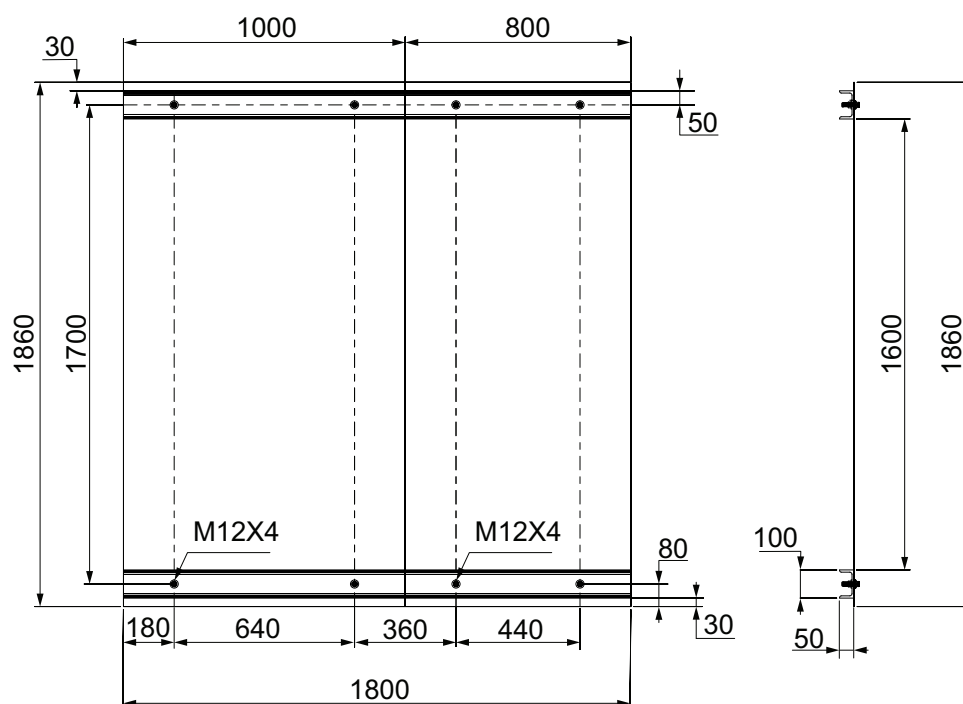

Figure 21
1. Drill holes into the C-channel frames at the intended cubicle fastening point, refer to Figure 21.